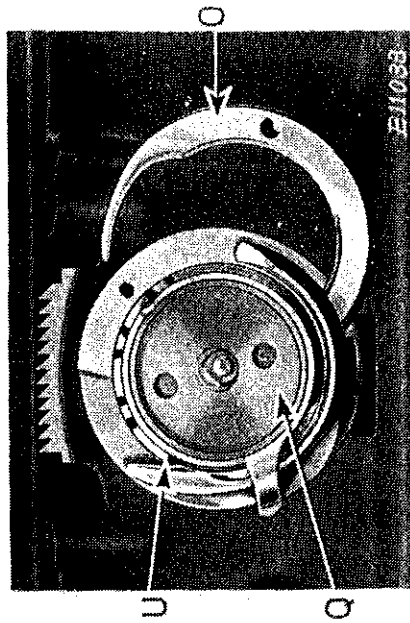

Fig. 7.
Remove throat plate and take out screw (P) so that the gib (O) can be displaced as shown in Fig. 7. Turn the bobbin case base so that the small point (U) on the base is beneath the point of the sewing hook, as shown in Fig. 7 and take out the bobbin case base (Q). To replace the base, reverse the operation.